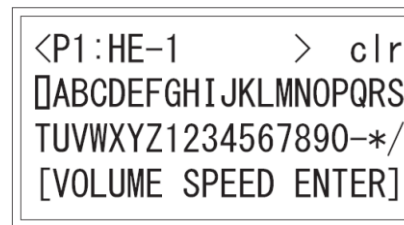

Figure 3-I: Program Name Setting
3. The program name setting screen appears (Figure 3-I).